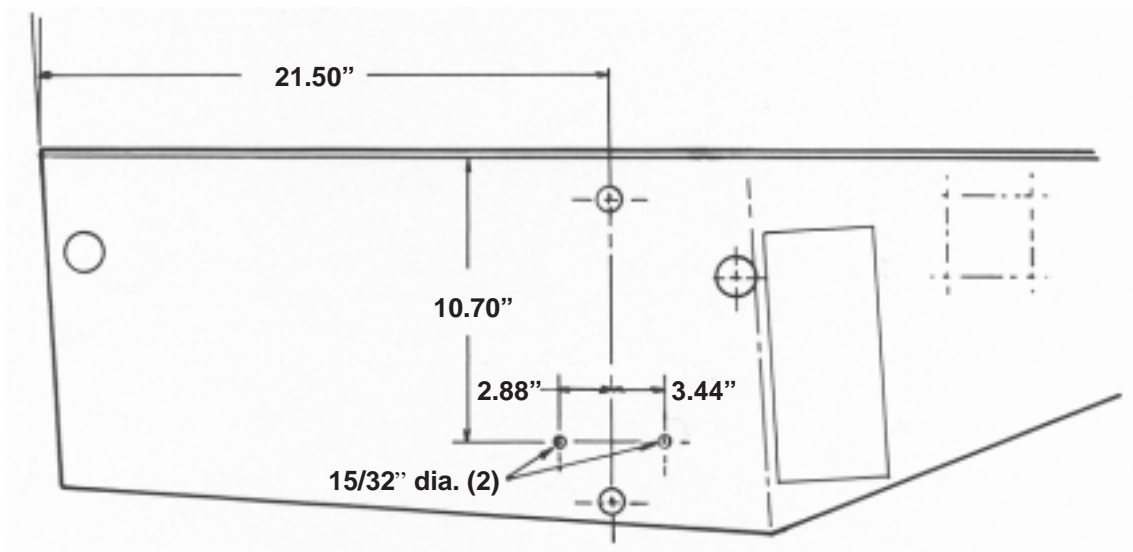

Figure 1
1. Using dimensions shown in figure 1, locate, mark and drill (2) 15/32" dia. holes in right and left frame rails.